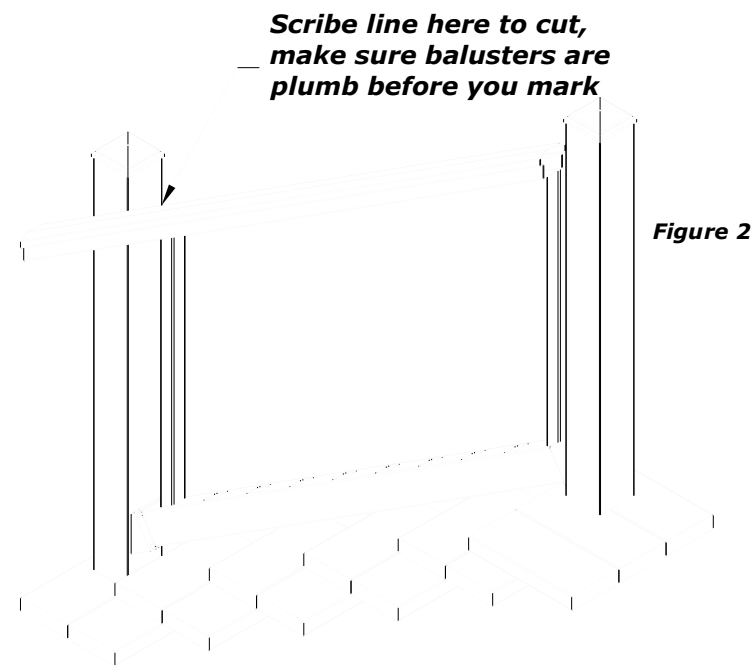

Figure 2
Step 3: Place two balusters into the bottom rail (at top and bottom of steps) and place top rail onto the balusters. Hold top rail up to the mounting posts with the balusters plumb and mark to cut (if necessary). Cut top rail at angle, this should be the same angle used for the bottom rail. (See Figure 2)